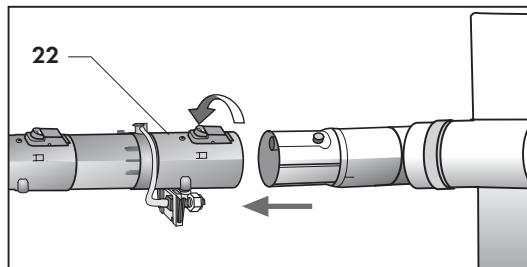

Fig. 23
- install the female end of the sprinkler to the end of the brush and rotate the ring to lock the two parts together (Fig. 23)